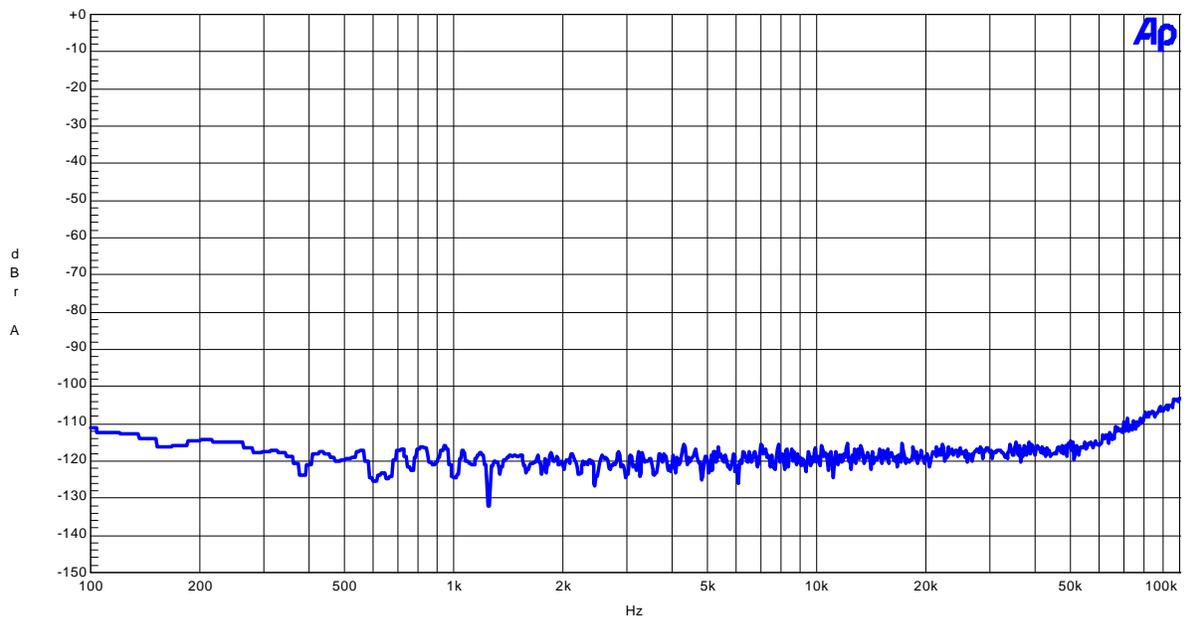

Figure1-4. FFT (Outband Noise)
- Figure 1-4. FFT (Out-of band noise)